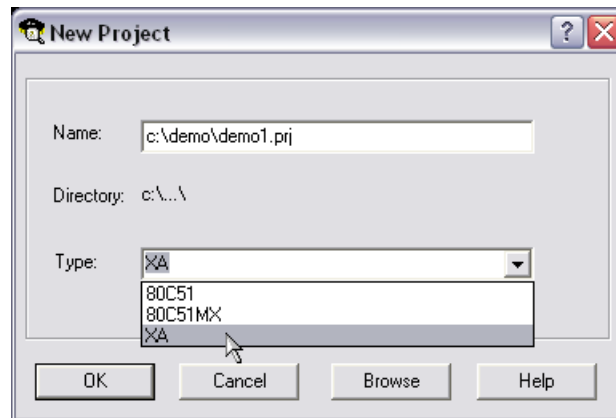

Figure 5-14 Naming Project
1. Start the software, select the menu “Project”→“New”, choose Type as XA and set the location for project saving and its name, as shown in Figure 5-14: